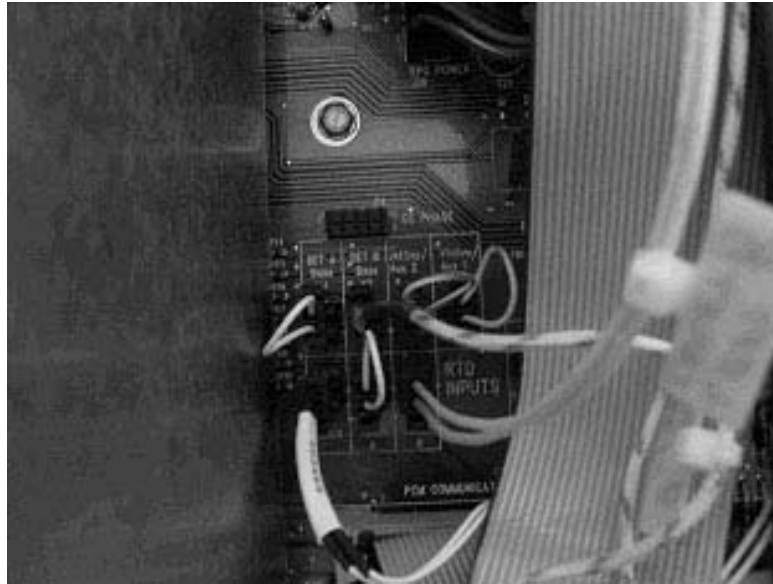

Figure 6 Establishing the Electrical Connection
- The Thermo GC has a number of heated zones from which to choose. Make sure that the RTD sensor and heater correspond to the same zone. The RTD sensor connection is made inside the cover on the right-hand side of the GC (see Figure 6).